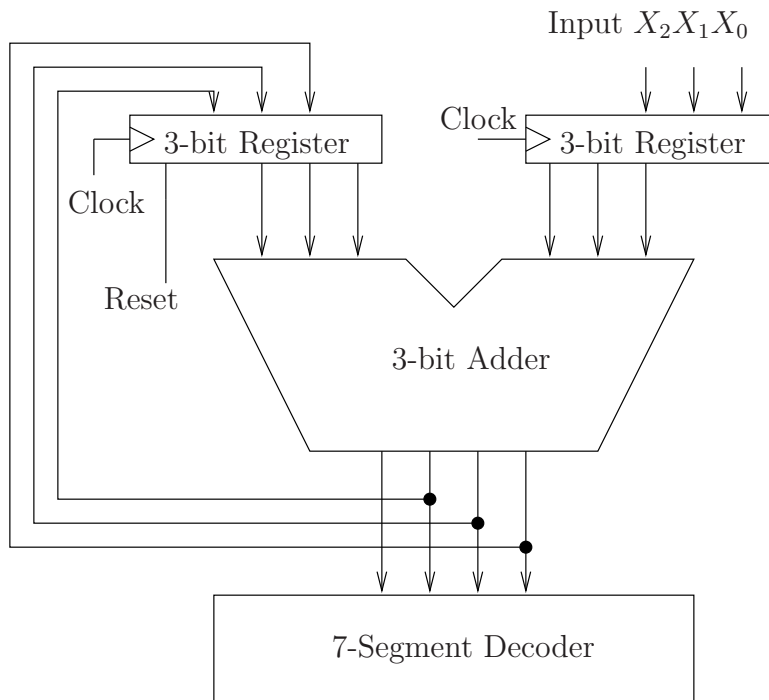

Figure 2: Adder Unit Schematic
Using the Verilog for a seven segment decoder and the 3-bit register (with reset) that you built in 4, you will build an adder unit, as shown in Figure 2, whose inputs are: a single three bit binary number ($X_2X_1X_0$), the Clock, and the Reset signal. The four output bits of the adder are connected to the 7-segment display so that it can be viewed. In the preparation below, you are required to figure out how to use this circuit to add two three bit numbers. This is actually a simple version of the arithmetic and logic unit that can be found inside all computers.
- a) Determine the sequence of control signals and data inputs that you would need to be able to add two 3-bit numbers using the circuit of Figure 2. You will need to know this in order to properly simulate the circuit that you will be designing. The sequence is essentially a timing diagram (giving the sequence of the input values $X_2X_1X_0$, Reset and Clock) such as you would create using the waveform editor of Quartus to test the circuit. In other words, submit the sequence in the form of a timing diagram.
- c) Using the adder, two 3-bit D type registers with reset, and the 7-segment decoder, build the circuit of Figure 2 as a hierachical circuit using Verilog. Design and simulate the circuit using Verilog only in a file called `alu3.v` (top level file).